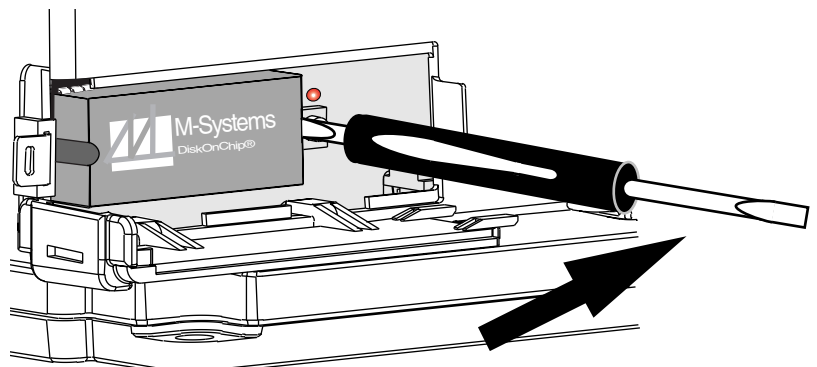

Figure 3: Prying the memory chip loose
7. Pry one end of the memory chip and then the opposite end, keeping the chip level as it is being pried loose (see Figure 3).